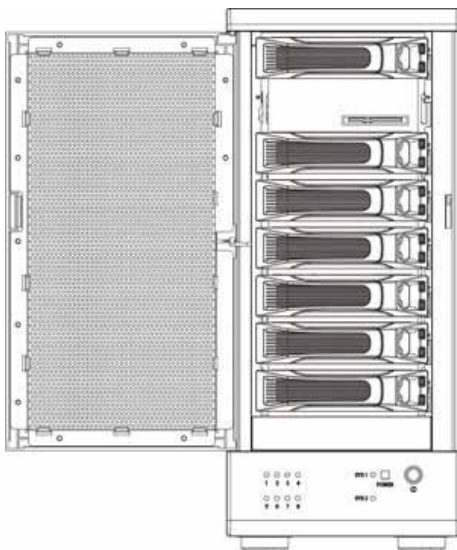

Fig. 17
1. If drive 2 fails, please remove it from the device (fig. 17).